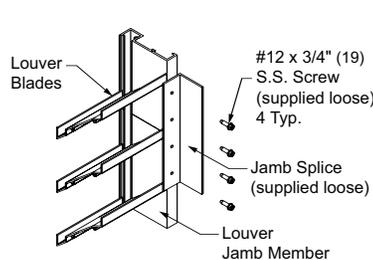

Fig. 3.4 Jamb Splice
2. Install the lower left section (as viewed from the exterior) following steps 2-4 above. If multiple sections high, install the upper left section(s) following steps 2-4 above. Install Jamb Splice and Stiffener Splice when required. See fig. 3.4 and 3.5.